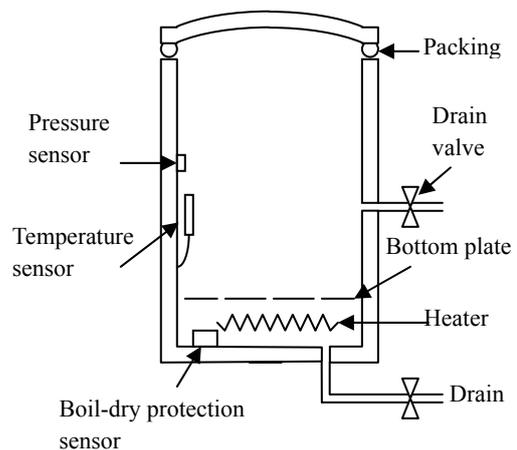
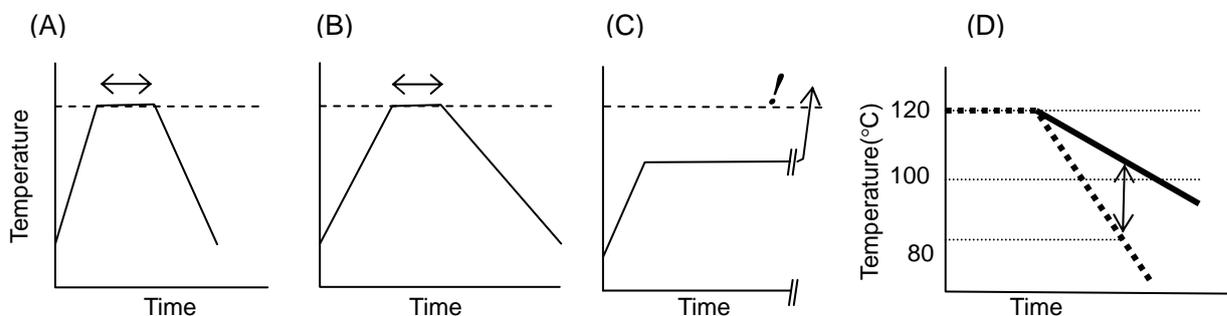

Fig. 1 Structure of autoclave
Fig. 2 Change in temperature in autoclave with time
Figure 1 shows the structure of the most common autoclave in the field of biochemistry. The time to maintain the obtained temperature after the temperature reaches the set value (the range indicated by the arrow in Figs. 2(A) and (B)) is set on the timer and the standard time is 10 – 20 minutes at 121°C.
Do not leave the laboratory unattended until the timer cuts out. This is because no-water burning will be caused if the vapor leaks caused by the aged deterioration of the packing. If vapor leaks, the sample will continue to be heated up because the temperature cannot reach the set value and the timer cannot start. Finally, all of the water will be exhausted, causing no-water burning (refer to Fig. 2(C)).
- (A) A small amount of medium is sterilized, (B) a large amount of medium is sterilized, (C) when the vapor leaks, and (D) the deviation of the real temperature of difficultly cooled liquid (solid line) from the value indicated on the thermometer (dashed line)
- (1) **Do not leave the laboratory before the timer is shut off. This rule should be strictly applied when everyone leaves the laboratory for a magazine meeting or seminar meeting. Do not place too much confidence on no-water burning protection sensor because it is not assured to always correctly function and it cannot be checked whether the sensor correctly functions.**
- (2) There is a deviation (difference) of the real temperature of the autoclaved liquid from the value indicated on the thermometer (the thermometer part is cooled earlier than the liquid because the outside of the autoclave is first cooled). **The real temperature of agar medium, antifforming agent, highly viscous liquids, such as sugar at high concentration and glycerin, and a large amount of solution may be more than 100°C even though the thermometer indicates a temperature less than 80°C (Fig. 2 (D)).** When taking out such a sample, sudden boiling may occur, causing a burn. When it is autoclaved, wait until the value indicated on the thermometer decreases to 60 - 70°C, take it out to avoid sudden boiling, and **never shake up the solution just after it is taken out.**
- (3) Do not put agar medium into a container exceeding half of its volume. For example, when using a conical flask with a volume of 500 mL, the agar medium limit is 250 mL. If more agar medium is used, the risk of sudden boiling increases, causing problems when mixing after autoclaving (the concentration of agar around the bottom after autoclaving is high because agar sinks). If agar is mixed just after autoclaving, sudden boiling may occur. Leave it to cool at room temperature for a few minutes.
- (4) Do not autoclave a sample with a low boiling point, such as organic solvents. To do so may cause fire or explosion; in addition, the bad smell produced will disturb others. The concentration of the sample will markedly change because of evaporation.
- (5) made of appropriate material.
- (3) If a strong alkali is autoclaved, it will dissolve glass. If a glass container is repeatedly autoclaved many times, the glass will progressively become thinner, causing breakage (pay attention because glass components dissolve in alkalis).
- (4) If the jar fermenter is autoclaved, do not open the lid until the temperature decreases to 60°C or less as a rule. It is difficult to cool a large amount of medium and it not only has a risk of sudden boiling, as shown in Fig. 2 (C), but also may damage the pH sensor and dissolved oxygen (DO) concentration sensor owing to the change in its pressure.
- (5) Be sure to loosen the lid of the container to be autoclaved. If sealed, the pressure outside the container increases prior to the inside as temperature increases, and decreases as temperature decreases. This pressure difference may cause the breakage of a glass container or the deformation of a plastic container.
- (6) If a plastic container, such as a centrifuge tube, is autoclaved, the lid will be pressed closely against the body when the container is cooled having a negative pressure after autoclaving, and will be deformed when the container is further cooled having a lower inner pressure. Therefore, sterilize the container with the lid removed, or wrap the container with aluminum foil while the lid is being sufficiently loosened so that the lid cannot be pressed closely against the body.
- (7) An uncracked medium bottle resistant to approximately one atmospheric pressure can be sealed and autoclaved. However, it cannot be sterilized unless a drop of distilled water is put in the bottle (it takes at least three hours at 160°C to sterilize the sample under a dry condition).
- (8) Overheating may transform the sample. If compounds with amino groups and reducing sugars, such as yeast extract and glucose, are autoclaved at the same time, the Maillard reaction occurs; therefore, the medium turns brownish and the sample strain may be prevented from growing. The longer the heating time and the higher the pH (pH>6), the more marked this reaction. Moreover, this reaction occurs more markedly when a large amount of medium is autoclaved (Fig. 2 (B)) than when a small amount of medium is autoclaved (Fig. 2 (A)).
- (9) If the sample is spilled (boiled over) in the autoclave,